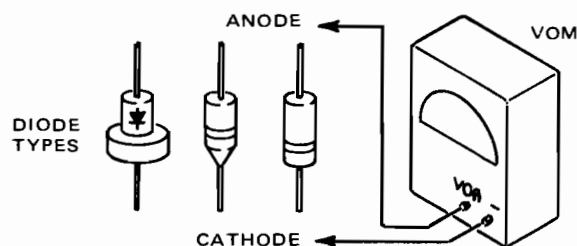

Fig. 13-1-1
4. Connect positive probe of VOM to anode of diode and common or negative terminal to cathode, as indicated in Fig. 13-1-1.